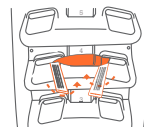

Fig. 48b
2. Secure attachment straps with the hook and loop fasteners (Fig. 48b).